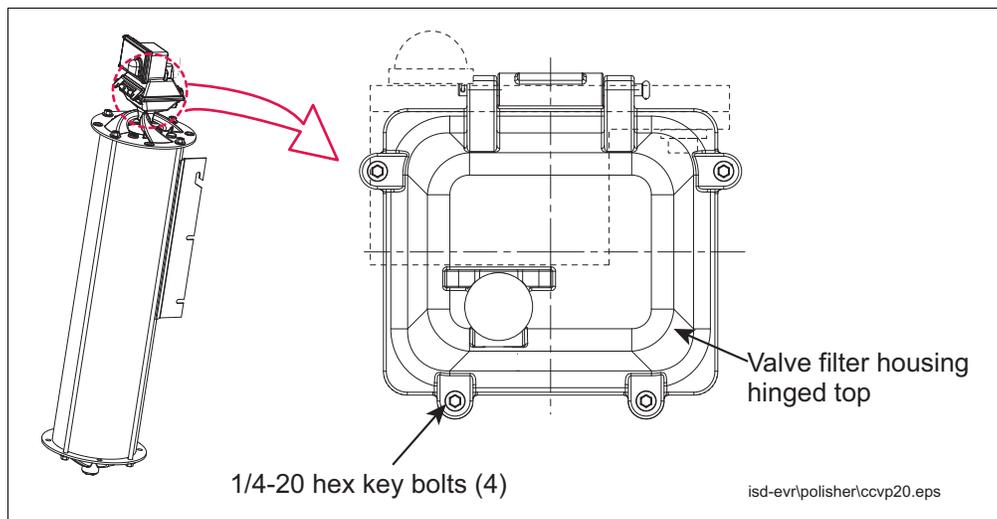

Figure 11. Accessing the valve filter and o-ring
1. Remove the four 1/4 -20 x 1" hex key bolts from the top of the Vapor Valve Filter housing (see Figure 11).